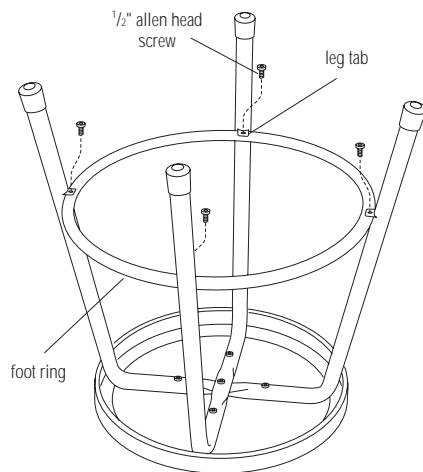

Figure 2
6. With stool still bottom side up, take the foot ring in hand and orient it with the holes facing up. Position the foot ring inside the legs of the stool, below the leg tabs as illustrated (Figure 2).
7. Insert 1/2" allen head screws into each of the holes in the leg tabs, and hand-tighten into the foot ring. After all screws are in, securely tighten all four 1/2" allen head screws with the supplied allen wrench (Figure 2).